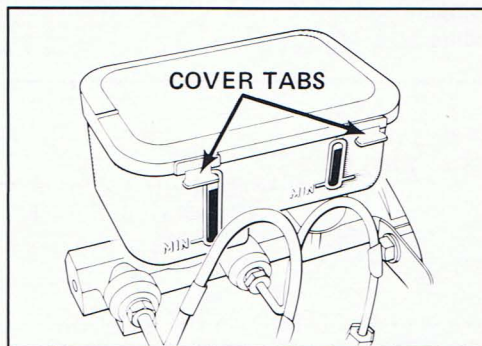

Figure 2 - Brake fluid reservoir
1. Observe the brake fluid levels through the plastic wall of the reservoir. The levels in both the front and rear chambers of the reservoir must be above the "MIN" lines. See Figure 2.
2. If it is necessary to add fluid, clean the cover and area around it to prevent foreign matter from entering the reservoir when the cover is removed. Grasp the tabs on the sides of the cover, and lift it off the reservoir. See Figure 2.